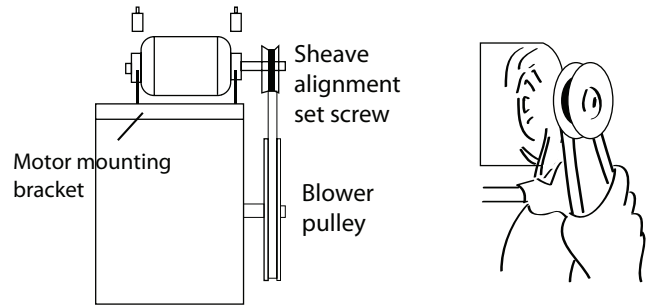

Fig. 5
- Align belt by vertically centering motor pulley in-line with blower pulley (see Figure 5)
Correct belt tension alignment is important as it cuts power consumption and prolongs life of belt and motor. When installing or adjusting belt, loosen the motor adjustment bolts and adjust for proper tension for each model as listed below. Do not tighten belt by adjusting motor pulley. Align belt vertically by centering motor pulley in-line with blower pulley (see Figure 5).